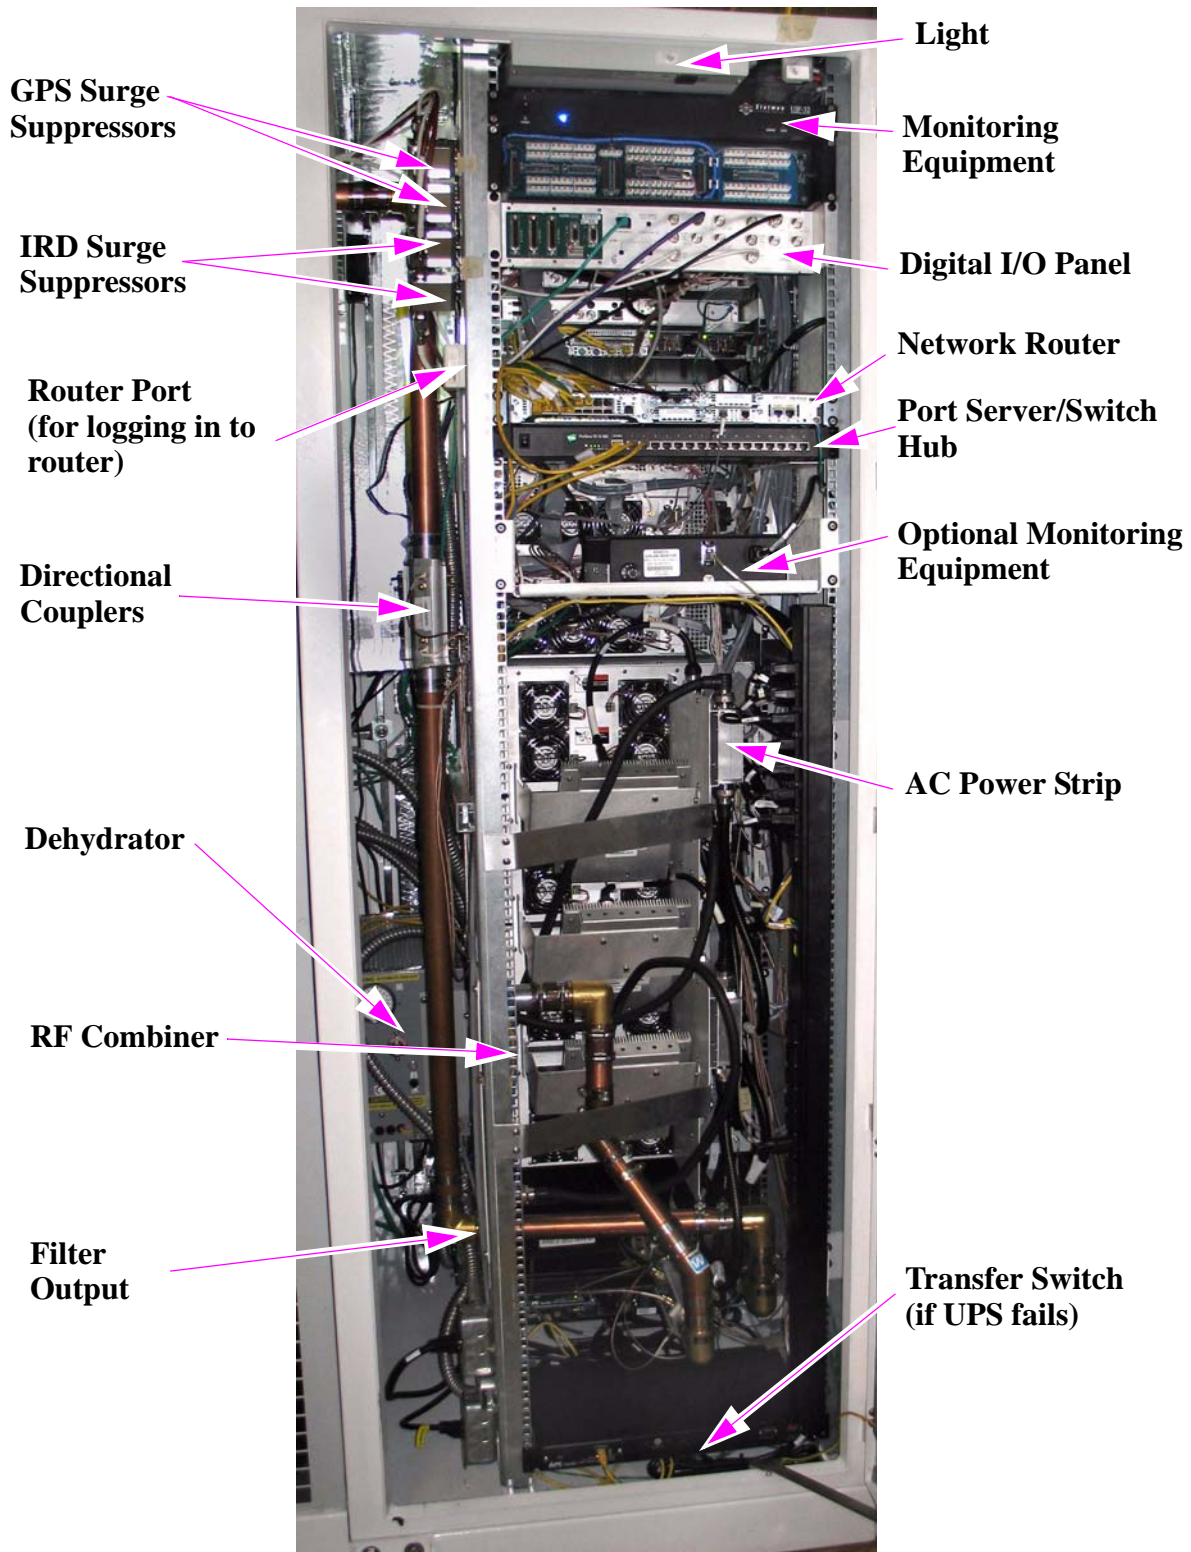
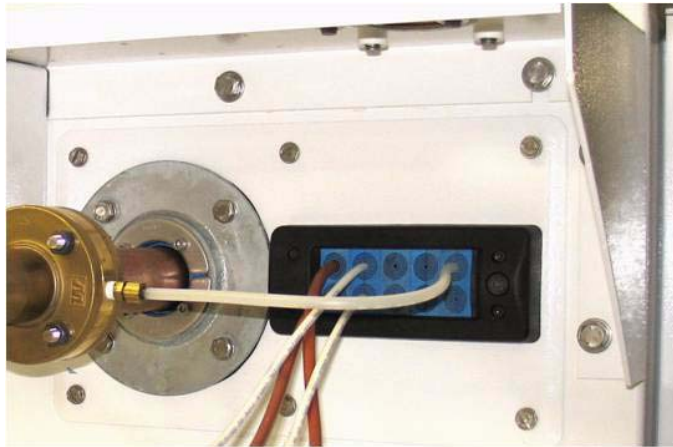

Figure 1-7 Transmitter Cabinet Rear View
Figure 2-4 GPS Antenna Cables
- STEP 2** Feed the antenna wires through the moisture proof barrier under the bracket close to the back of the transmitter. Figure 2-4. They connect to the GPS surge suppressors. See Figure 1-7 on page 1-8.
Removed from the rear of the enclosure (and shown in Figure 1-7 on page 1-8) are the network router, the port server/switch hub and the coaxial lines into and out of the mask filter.